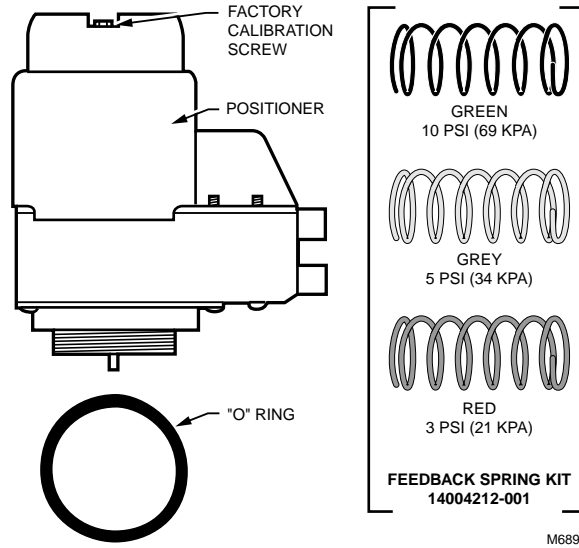

Fig. 1. Positive Positioner Retrofit Kit, Part No. 14004140-001.
The following retrofit kits (Fig. 1 and 2, and Table 1) will replace the old style Gradutrol Relay, on the direct acting MP953A Pneumatic Valve Actuators, with the new style positive positioner and bracket assembly that is used on the MP953E models.
- ❶ If none exists, temporarily install gages in main and pilot lines. Main line pressure should be equal to or more than top of sequencing range, or 13 psi (90 kPa) minimum.
- ❷ Vary the branch line pressure through the operating range of the actuator in both directions. The valve should open and close smoothly.
- ❸ Adjust pilot pressure to 0 psi (0 kPa). Slowly increase pressure and note that pressure at which the valve stem travel starts. This pressure should be within 1 psi (7 kPa) of the start point.
- ❹ If positioner calibration is off, recalibrate by adjusting the factory calibration screw (Fig. 1) found in the center of the knob.
- ❺ Increase pilot pressure until the valve stem travel is complete. This pressure should be the start point pressure plus the operating range.
- ❻ To adjust start point, set knob to any desired start point between 1-1/2 and 13 psi (10 and 90 kPa). Each detent on the knob equals 1/4 psi (1.8 kPa).
- ❼ After adjustment or calibration, recheck operation.